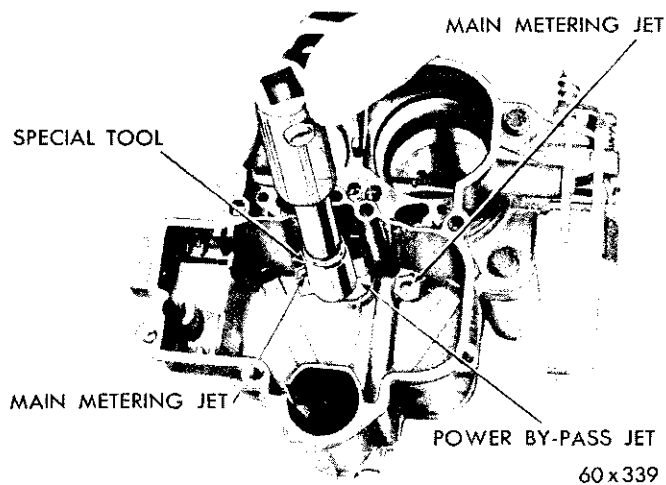

Fig. 19—Removing or Installing Power By-Pass Jet
(5) Using Tool 73598, remove the power by-pass jet and gaskets, as shown in Figure 19.
(3) Install the power by-pass jet and new gasket. Tighten securely, using Tool 73598 (Fig. 19).